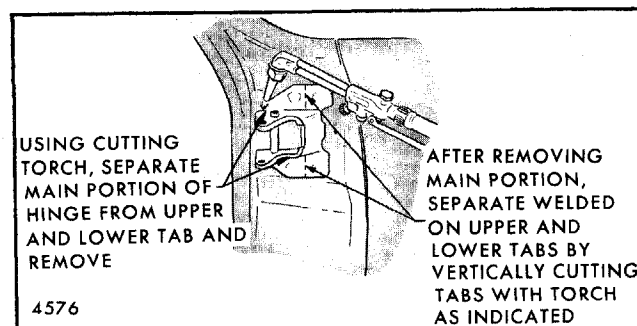

Fig. 5-101-Body Side Hinge Strap Removal - X Styles Shown, H Styles Similar
4. Using a cutting torch, separate main portion of hinge, including hold-open link and spring, from upper and lower tabs. After main portion has been removed, vertically cut upper and lower hinge tabs with cutting torch as shown in Figure 5-101.
4. Using a cutting torch, separate main portion of hinge from upper and lower tabs. After main portion has been removed, vertically cut upper and lower hinge tabs with cutting torch as shown in Figure 5-101.